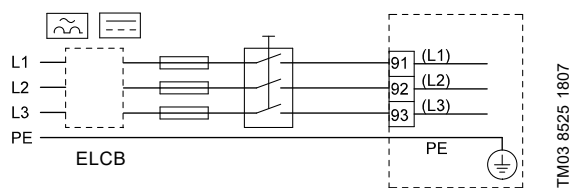

**Fig. 152** Example of three-phase mains connection of CUE with main switch, backup fuses and additional protection
- Leave the screen as close to the connecting terminals as possible. See fig. 152.
A main switch can be installed before the CUE cabinet according to local regulations. See fig. 152.